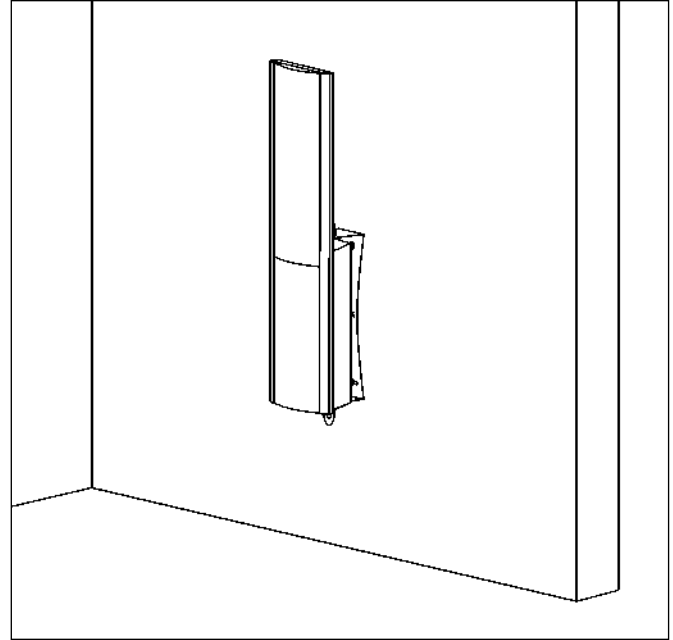

Figure 8.
- 10 Your Script is now mounted on the wall (see figure 8). To direct the speaker at the listening position, loosen the top and bottom knobs slightly and pivot the speaker to the optimum angle. Re-tighten the knobs.